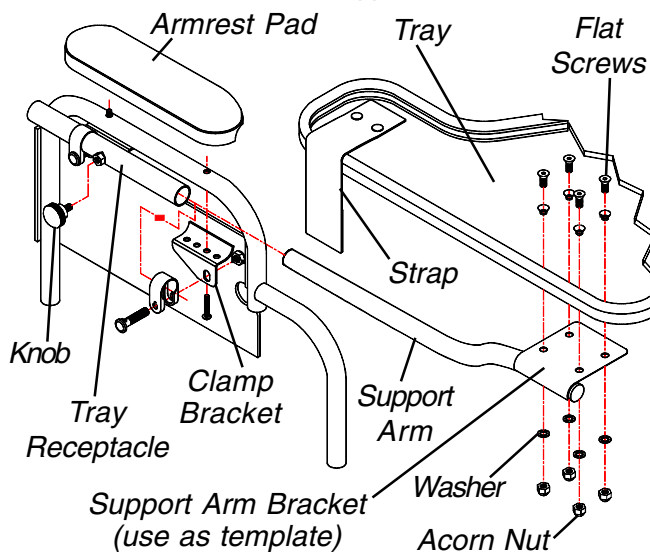

FIGURE 1 - INSTALLATION
INSTALLATION (FIGURE 1)
3. Adjust the clamp brackets on the tray receptacle so that one (1) of the four (4) holes on each clamp bracket line up with one (1) armrest hole.
4. Secure the armrest pad and tray receptacle assembly to the armrest with the previously removed screws as shown in FIGURE 1.
8. With a pen locate and mark the four (4) drill points on the tray by using the support arm bracket as a template.
9. Using a 1/4" drillbit, drill four (4) holes corresponding to the marks made with the pen.